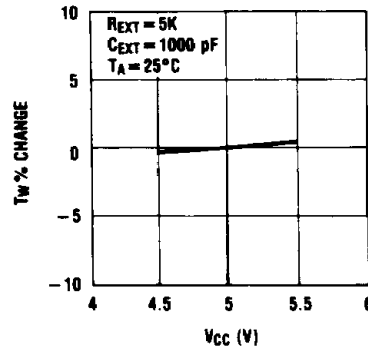
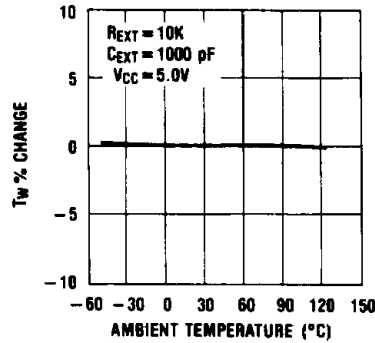

FIGURE 4
FIGURE 5
7. Output pulse width versus V_{CC} and temperatures: Figure 4 depicts the relationship between pulse width variation versus V_{CC} . Figure 5 depicts pulse width variation versus temperatures.